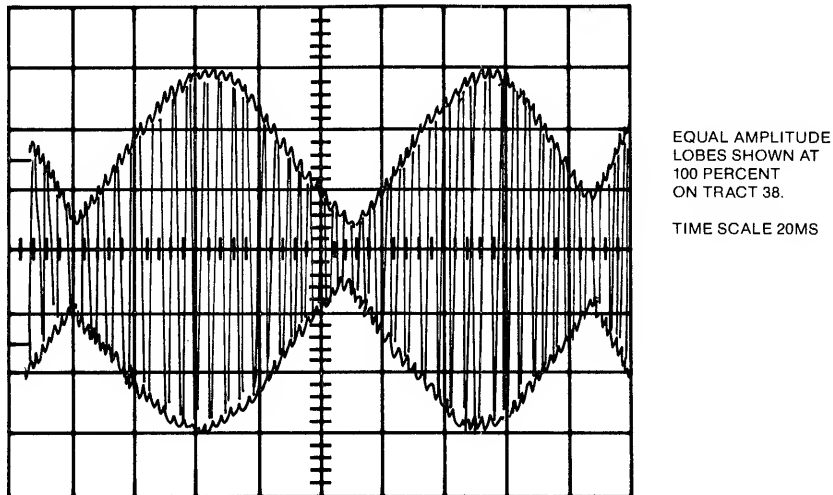

Figure 4-3. Cats Eye Pattern
5. Seek to track 38 for a Cats Eye and adjust scope to observe the pattern (see figure 4-3).